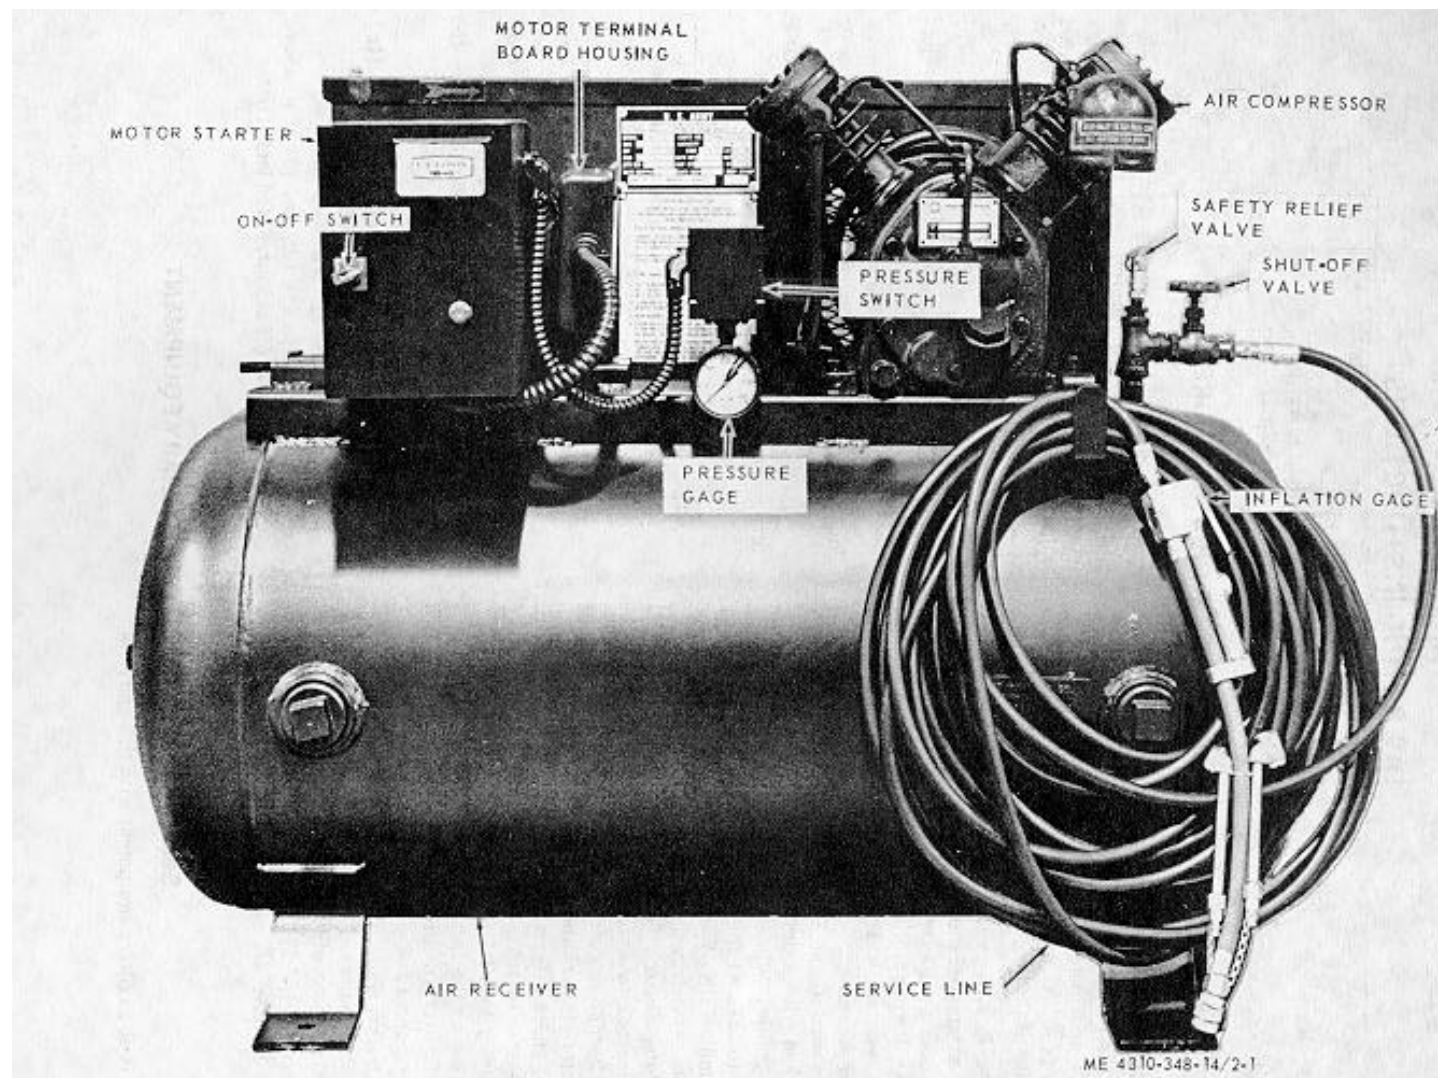

Figure 2-1. Air compressor controls and instruments
a. *General.* This section will describe the various controls and instruments (fig. 2-1) and provide the operator sufficient information to insure proper operation of the air compressor.
b. *Pressure Switch.* The pressure switch (fig. 2-1) is the automatic start and stop control. It makes and breaks the electrical circuit starting and stopping the driving motor. The pressure switch is piped to the receiver, and is actuated by changes in air receiver pressure.
c. *Pressure Gage.* The pressure gage (fig. 2-1) dial is marked with a dotted line at 175 psi, and a solid line at 200 psi. When the gage indicator hand points at 175 (or below) the pressure switch will turn the drive motor ON. When the hand reaches 200, the pressure switch will turn the drive motor OFF.
d. *Motor Starter.* The motor, starter (fig. 2-1) must be connected to a controlled power source of 115 volts alternating current. When that power reaches the motor starter, and the ON-OFF switch is moved to ON, the motor will drive the compressor until the pressure switch is actuated (c. above).
e. *Safety Relief Valve.* The safety relief valve (fig. 2-1) is set by the factory to blow off at 210 psi. This prevents overpressure, should the pressure switch become inoperative.
f. *Inflation Gage.* The inflation gage (fig. 2-1) controls, and indicates, the amount of air being discharged into tires of various sizes.